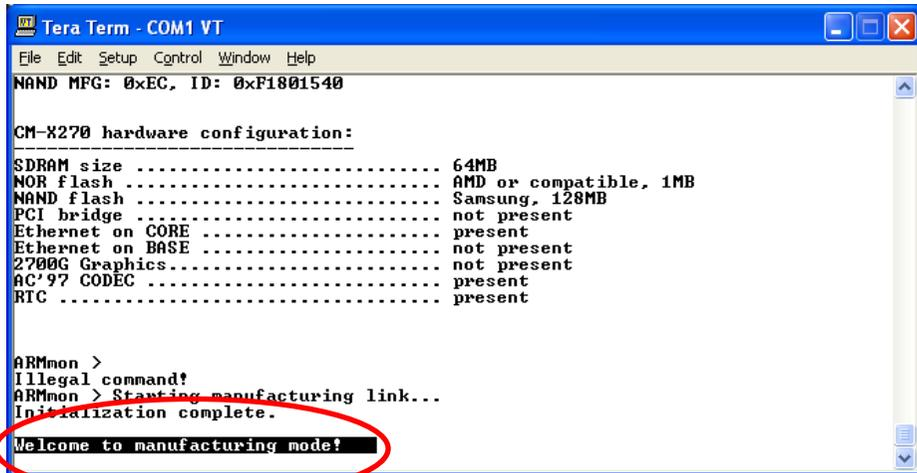

Figure 114:
14. Wait for few Seconds and then press "Enter" once on your keyboard. The following message will appear (Figure 114).